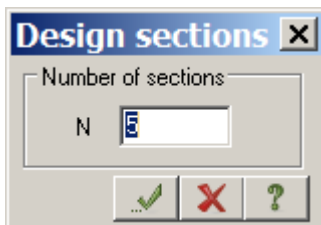

Figure 12.26 **Design sections** dialog box
- ⇒ In the **Design sections** dialog box (see Fig.12.26), specify number of sections  $N = 5$ .